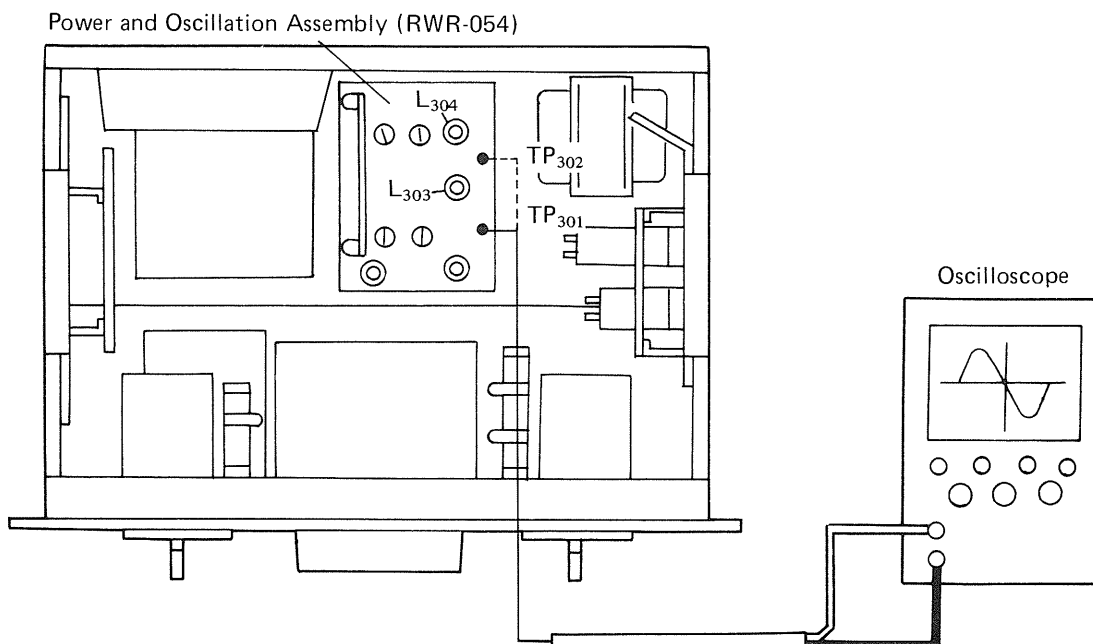

Fig. 31
1. Connect an oscilloscope to test points TP₃₀₁ (L ch), TP₃₀₂ (R ch) of the power and oscillation ass'y RWR-054 (Fig. 31).